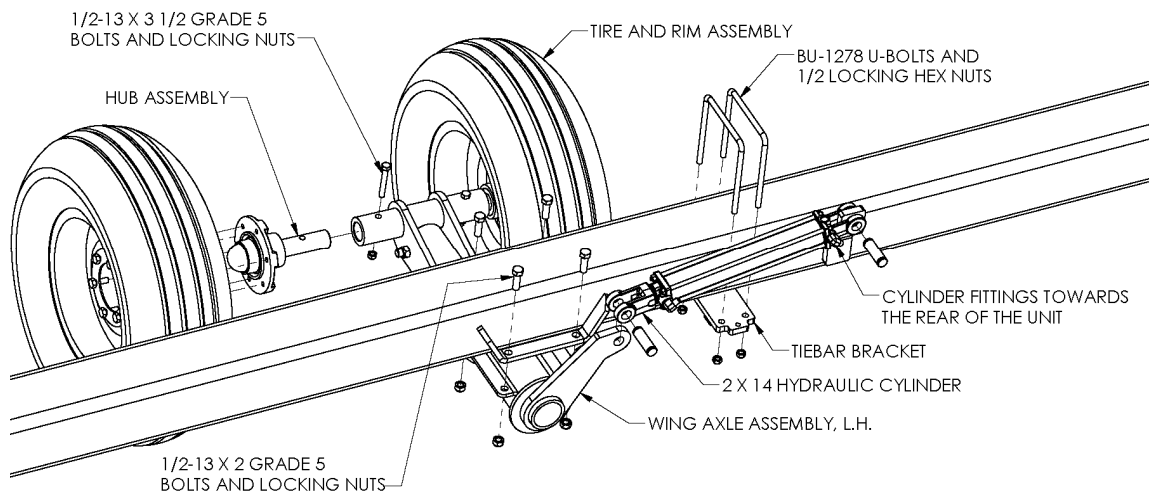

Figure 8
1. Mount the Tiebar Brackets to the wing tube between the cylinder post and the wing/transport wheel assemblies as shown in Figure 8. Use two 1/2 x 7 x 8 U-bolts, and locking hex nuts. The location of these brackets should be the same on the right and left hand wing tubes.